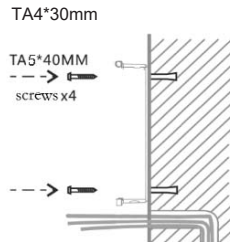

Figure 3-4
- A. Align the screw holes of the wall bracket with the drilled holes on the wall, put in the $\phi 6 \times 30$ mm rubber plug, and fix it on the wall with the TA4*30mm screws provided, as shown in Figure 3-4.